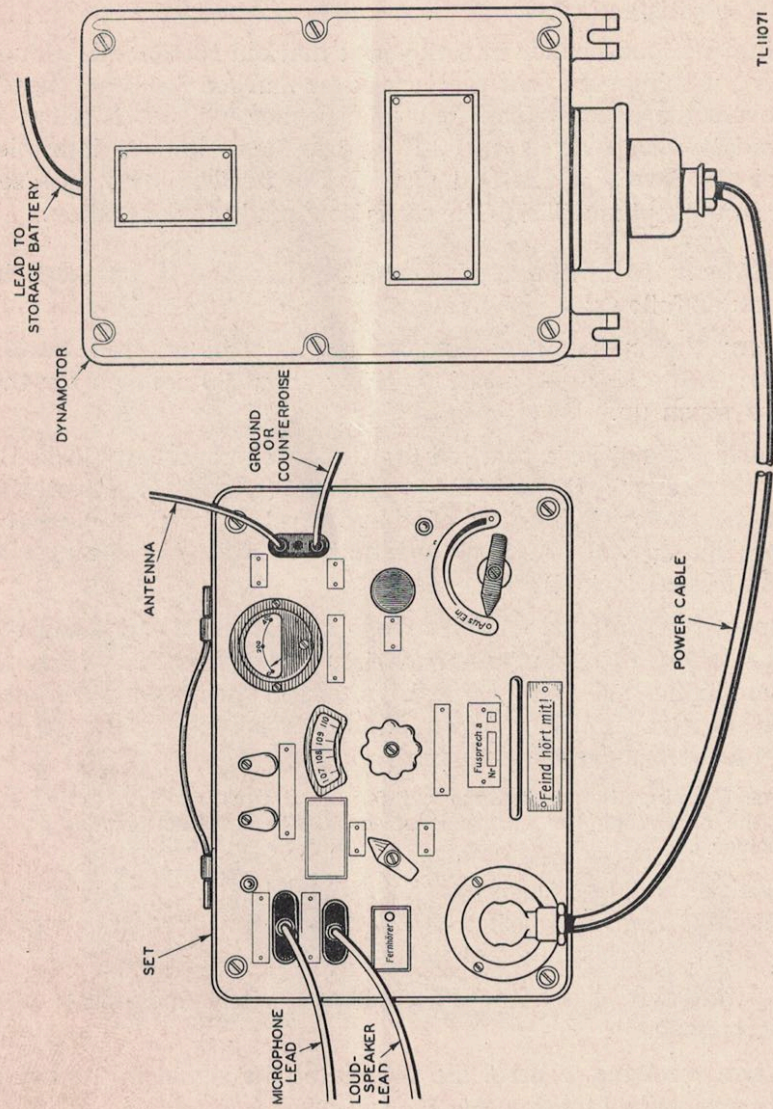

Figure 4. German radio set Fusprech.a, cording diagram.
(1) Connect battery lead to the 12-volt input terminals of the dynamotor and the 12-volt storage battery, inserting a 15-ampere fuse in the positive lead.
(2) Connect the power cable to the power input receptacle on the lower left of the front panel of the transceiver and to the power output receptacle on the dynamotor, as shown in figure 4.
(3) Connect the antenna cable to the jack marked **Ant.** (antenna). Ground the jack marked **G.** (counterpoise) to the chassis of the vehicle (figs. 4 and 5). If coaxial cable is available, connect the